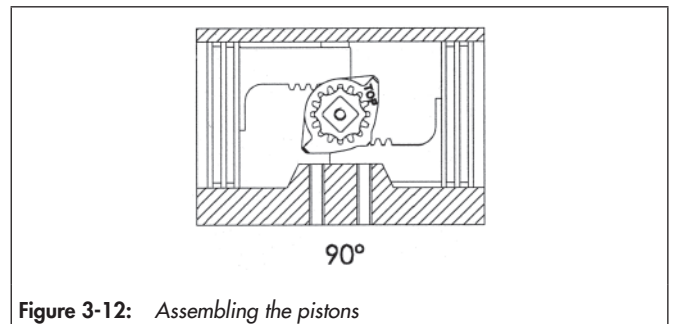
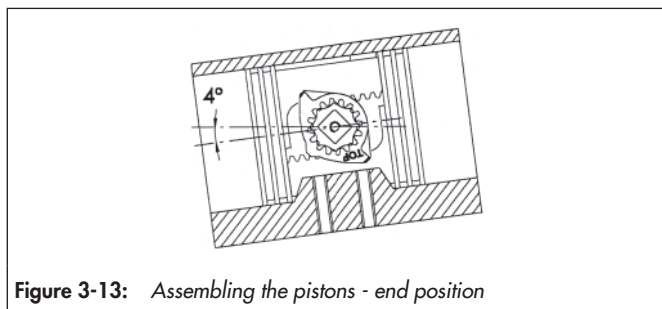
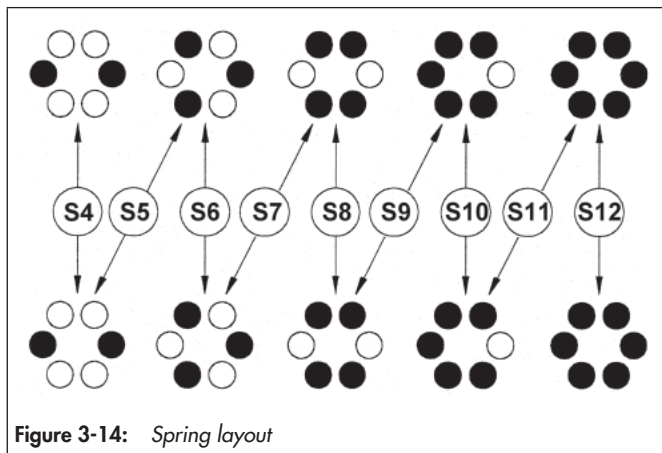
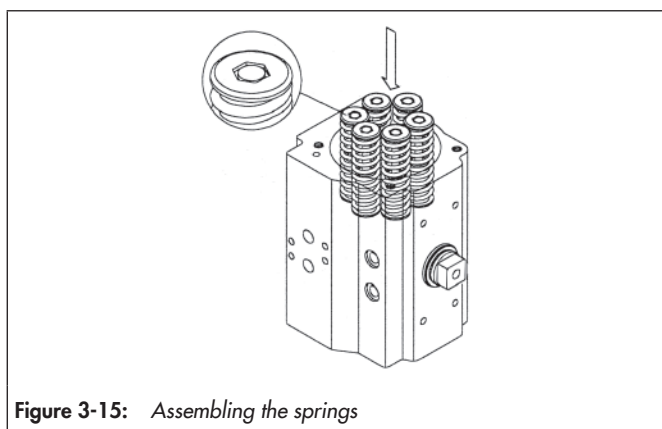

Figure 3-12: Assembling the pistons
Figure 3-13: Assembling the pistons - end position
Figure 3-14: Spring layout
Figure 3-15: Assembling the springs
(see Figure 3-3, Figure 3-12, Figure 3-13, Figure 3-14 and Figure 3-15)
- ⇒ For single-acting actuators, insert the correct number of spring cartridges, according to the table on the respective data sheet, into the end cap, see Figure 3-12 and Figure 3-13.
- ⇒ Screw the adjusting screws (102) into the end caps (122 and 123).
- ⇒ Align the screw head on the end cap surface, see Figure 3-14.
- ⇒ Position the seal (111).
- ⇒ Fit the washer (103).
- ⇒ Screw on the lock nut (104).
- ⇒ Assemble the end cap and maintain a constant distance ($A = B$) between the rotary actuator housing and the housing interface, see Figure 3-15.